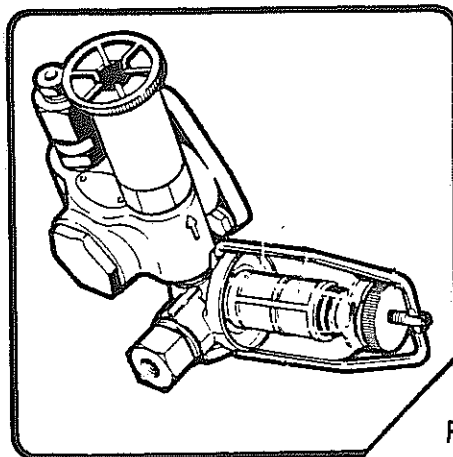
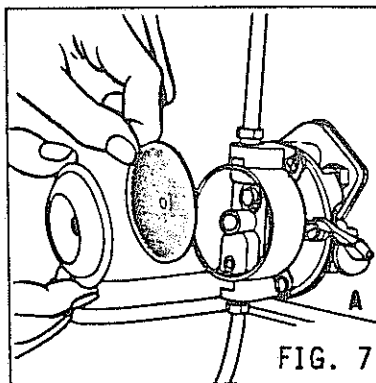

FIG. 6.
FIG. 7.
3. Loosen the bleed screw on the inlet side of the fuel filter (fig. 6&7) about two or three turns.
4. Operate the priming lever at the side of the fuel lift pump on naturally aspirated unit (fig. 7.) or the pump plunger (Fig. 6.) on turbocharged engines until a flow of fuel, free of air, is expelled. Then close screw.